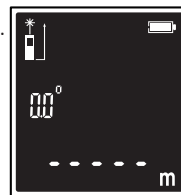

Fig. 6
Single-mode measurement (Fig. 6)
- The measurement will be displayed immediately on the screen. (Fig. 6)